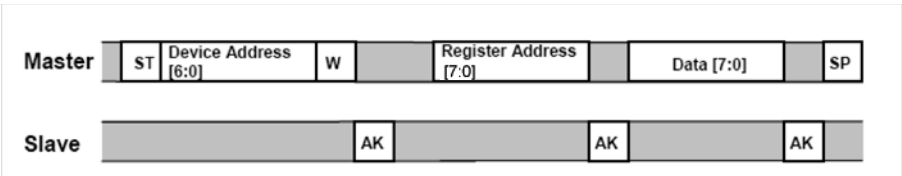

Figure 9. Single Byte Write - The Master (MCU) is writing to a single register of the MMA7455L
To start a write command, the Master transmits a start condition (ST) to the MMA7455L, slave address (\$1D) with the R/W bit set to “0” for a write, the MMA7455L sends an acknowledgement. Then the Master (MCU) transmits the 8-bit address of the register to write to, and the MMA7455L sends an acknowledgement. Then the Master (or MCU) transmits the 8-bit data to write to the designated register and the MMA7455L sends an acknowledgement that it has received the data. Since this transmission is complete, the Master transmits a stop condition (SP) to the data transfer. The data sent to the MMA7455L is now stored in the appropriate register. See Figure 9.